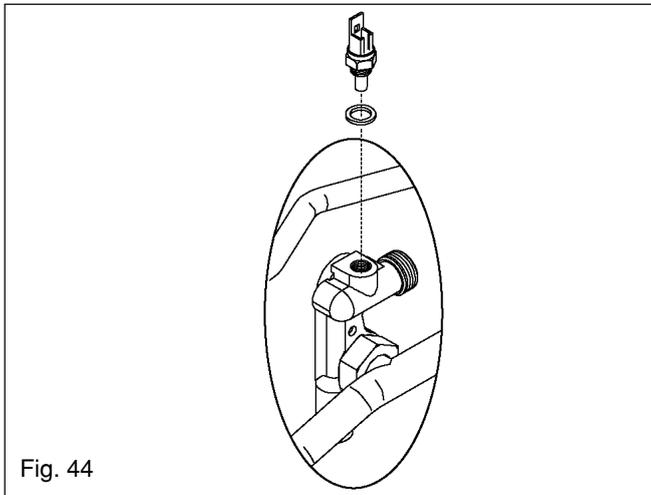

Fig. 44
6.24 SECONDARY THERMISTOR (see fig. 44)